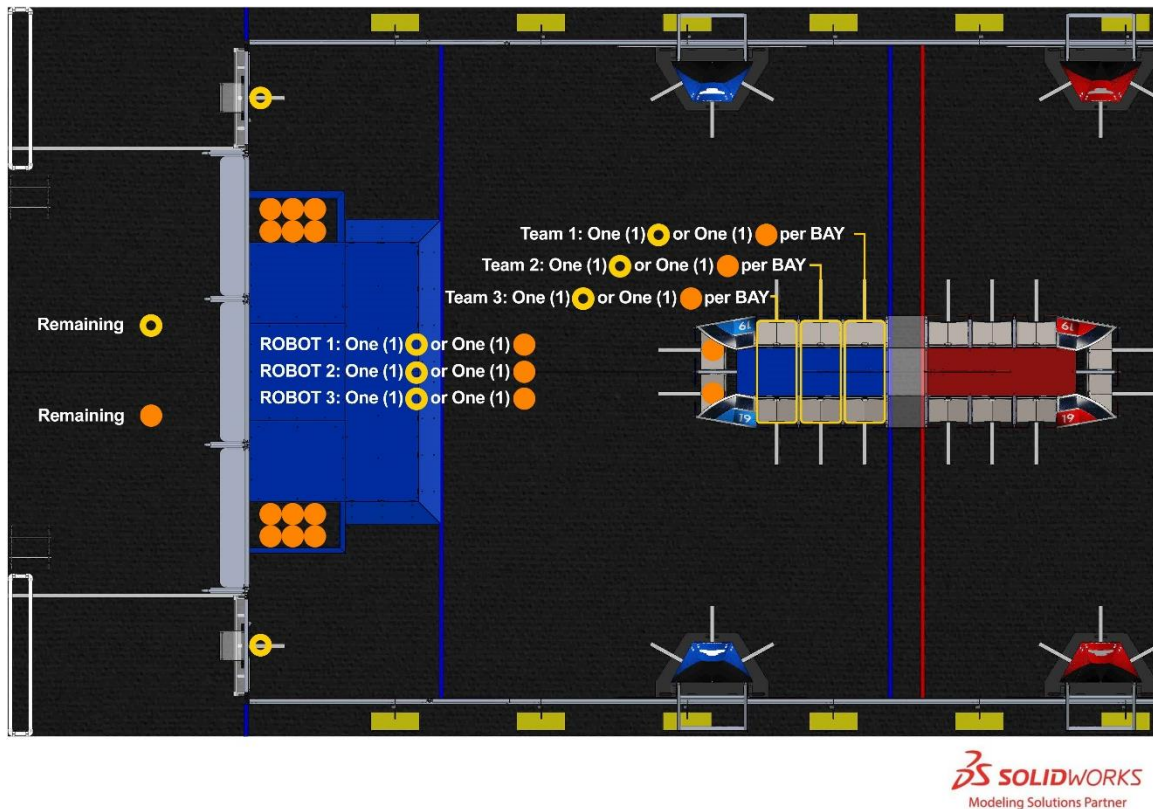

Figure 5-2 GAME PIECE staging (~½-FIELD shown)
- E. One (1) CARGO is staged in each of the two (2) ALLIANCE WALL-facing CARGO SHIP BAYS
- F. Each team must prepopulate one (1) CARGO or one (1) Null HATCH PANEL (a HATCH PANEL marked with white tape and hardware installed to secure Null HATCH PANEL to the CARGO SHIP, see drawing GE-19244) in each of their two (2) designated CARGO SHIP BAYS (designated per the MATCH schedule and per Figure 5-2). Nonstaged Null HATCH PANELS and CARGO are excluded from MATCH play. If no team decision, the BAY will be populated with one (1) CARGO.